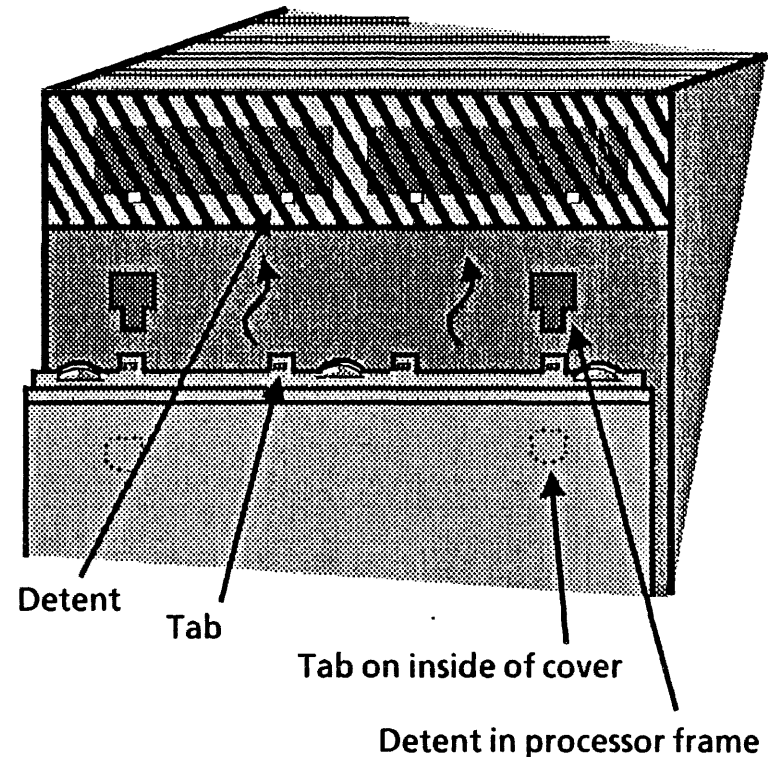

Figure 4-5 Side Cover Installation
- b. Mate the four tabs on the upper edge of the side cover with the four detents in the top cover. (Figure 4-5)
- e. (If the top cover has been removed in order to install the side cover, place it on the processor and allow it to settle into place.) Ensure that the top cover is seated correctly by pressing down firmly along the top edges until the cover detents snap securely onto the side cover tabs. (Figure 4-5)
1. Place the top cover on the processor and allow it to settle in place. Press down firmly along the top edges until the cover detents snap securely onto the side cover tabs. (Figure 4-5).